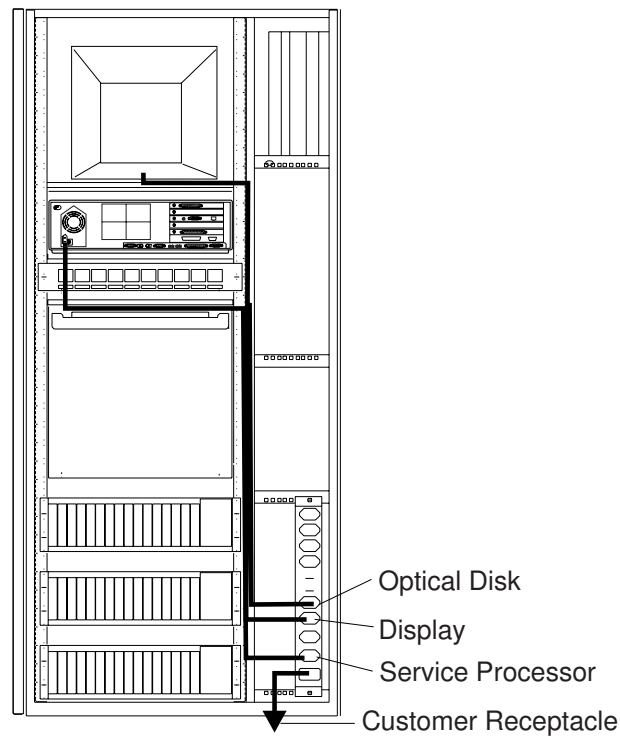

Figure 29. Power Cords Connection
- 24. Route and connect the power cords (PN 58G5783) from the display, optical disk drive, and service processor unit to the ac outlet distribution box as shown in Figure 29. Secure these cables using tie clamps along the frame, then go to step 26 on page 27.